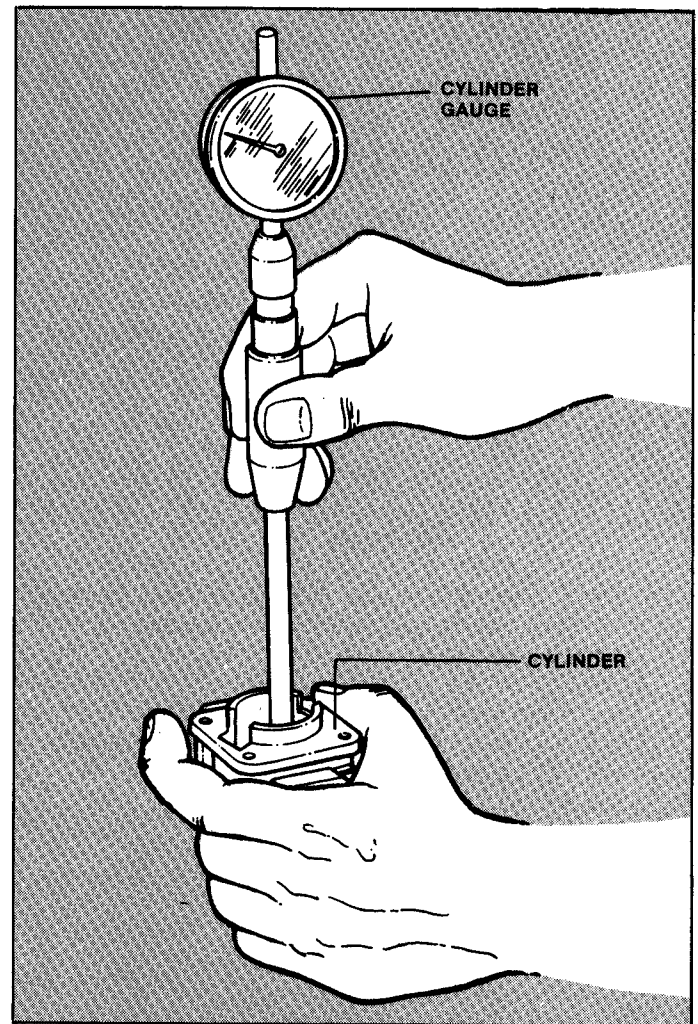

FIGURE 2.13
- D. Measure the cylinder bore with a cylinder gauge as shown in Figure 2.13.